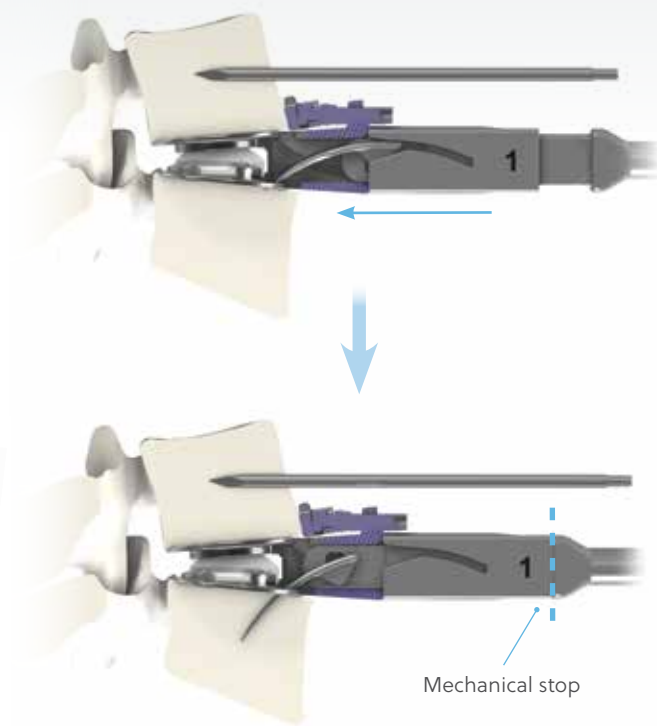

Figure 38
- Bone chisel impaction must be done progressively and in several steps with complete withdrawal of the blade from the vertebral body between each step (**Figure 38**).